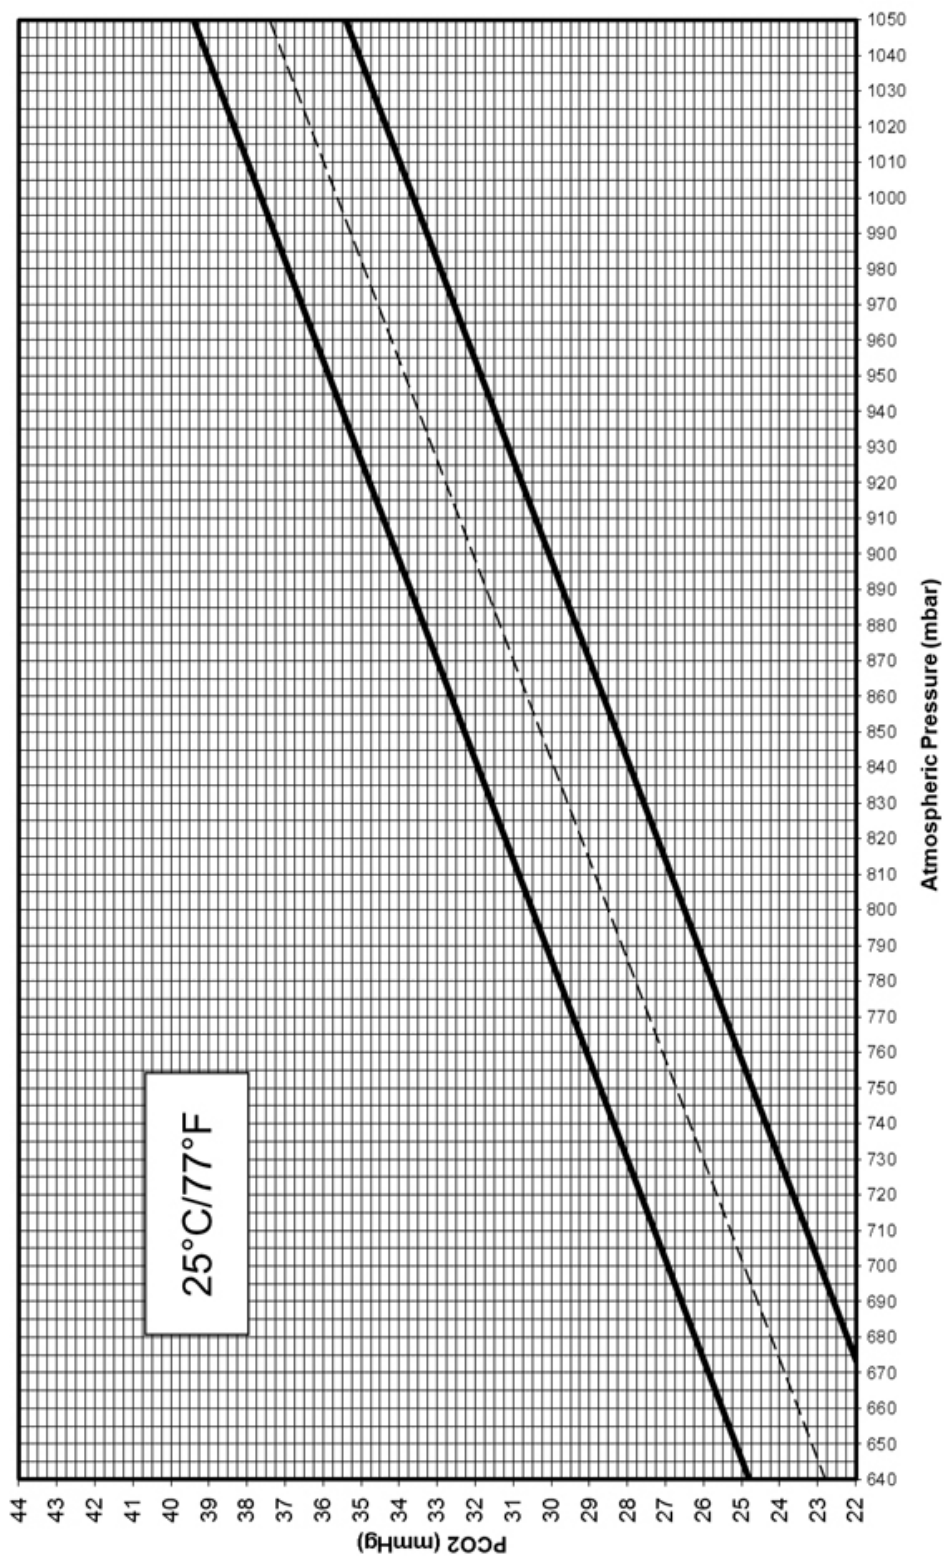

Fig. 191 Acceptable Range for PCO₂ at Atmospheric Pressure (22.5 to 27.5 °C)
- Ambient temperature 25 °C (22.5 to 27.5 °C): Fig 191